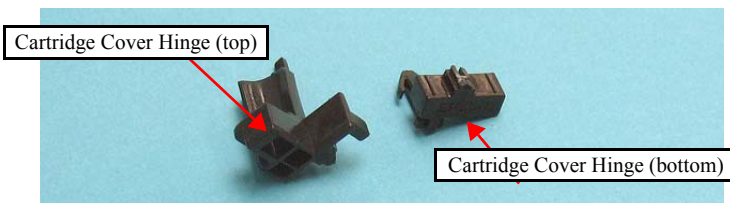

Figure 4-36. Cartridge Cover Hinge
4. Release the hooks of the lower half of the Cartridge Cover Hinge with tweezers, and remove the lower half of it. (See Figure 4-36)